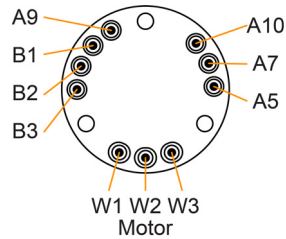

Figure 17 ENX 16...22 EASY INT Absolute COMM – Pins
- Absolute encoder, Hall sensors, and motor with pins (→Figure 17)